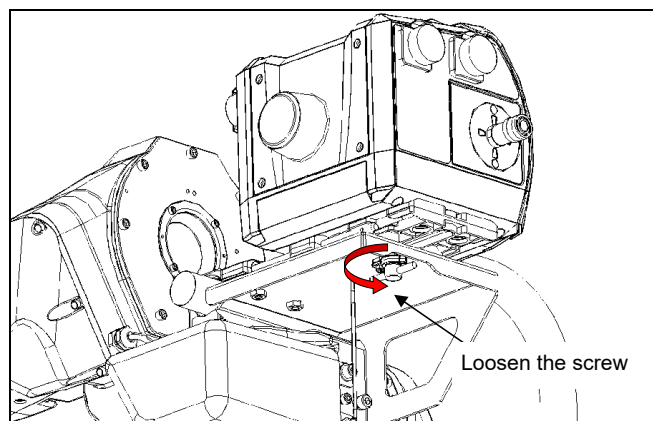

Fig. 7.5.1 (a) Replacing the hose pack (1)
- 2 According to Fig. 7.5.1 (a), loosen the split box mounting screws then move the split box to the backside.
- 3 According to Fig. 7.5.1 (b), remove connectors on the split box.